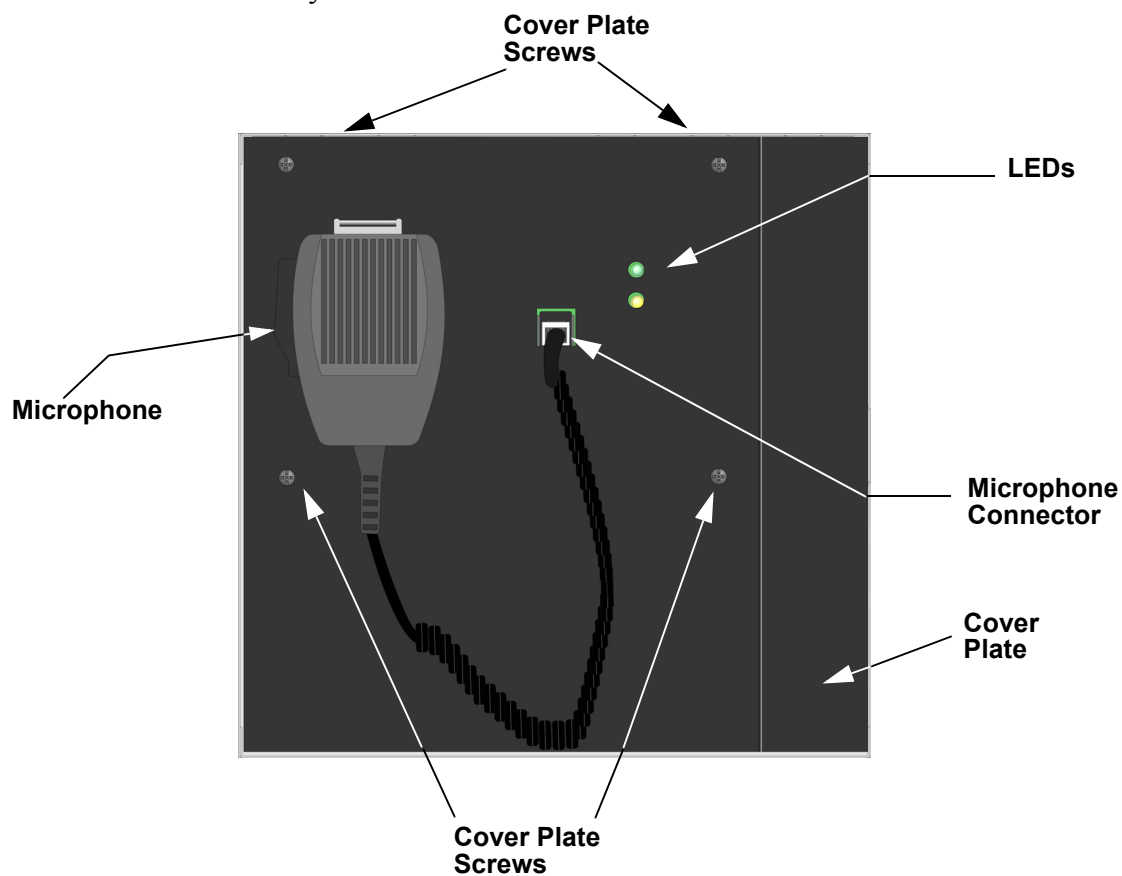

Figure 7-1 The SKE-SRM
3. Unplug microphone from microphone connector. See Figure 7-1.
4. Remove the cover plate by un-screwing the four cover plate screws (see Figure 7-1). Set the screws aside for later use.